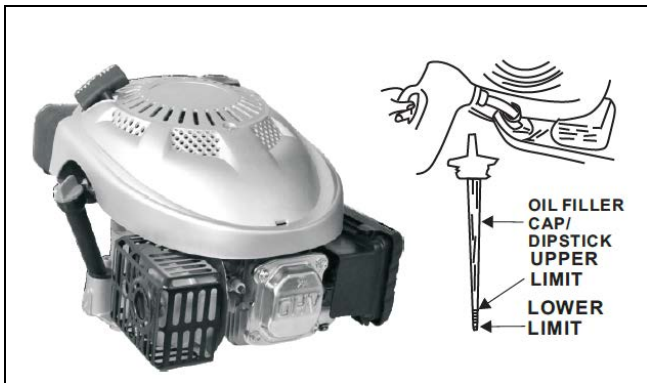

Fig. 9
5. Pour the recommended oil slowly into the oil fill. Do not overfill. After adding oil, wait for one minute and then check the oil level by using dipstick. Oil level should be between lower limit and upper limit (See Fig. 9).